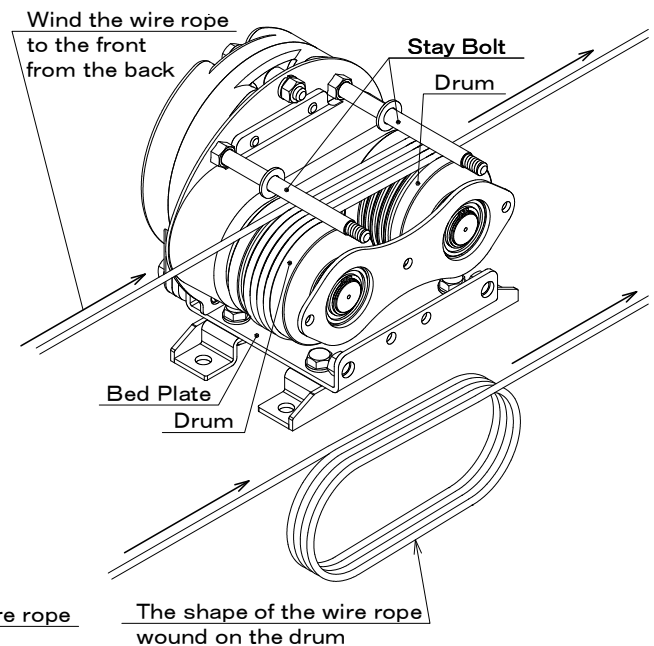

Figure 5-2 ⒷHow to wind the wire rope when taking one end of the wire rope out of one side
- Ⓑ When taking one end of the wire rope out of one side, the wire rope needs to be wound around the 4 winding drum as shown in the Figure 5-2, and then finally taken out from the stay bolt side on the right.